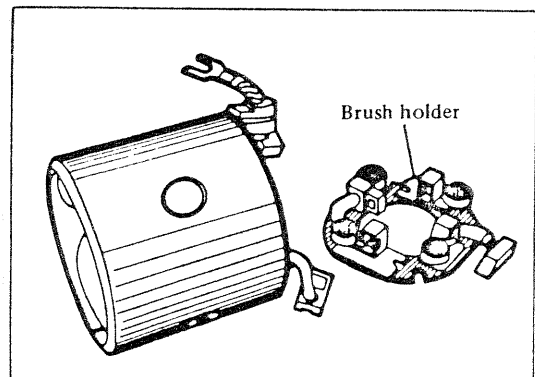

Figure 4.2-F. Brush Holder Removal
3. **Armature** (Figure 4.2-J):- Use a "Growler" tester to check the armature for short circuit condition. Replace the coil if shorted.